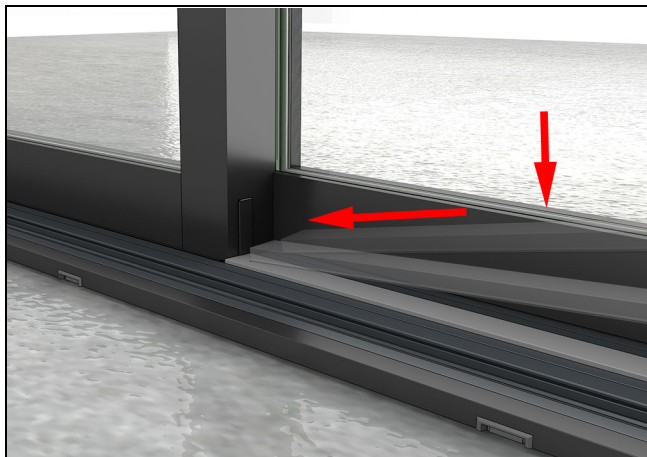
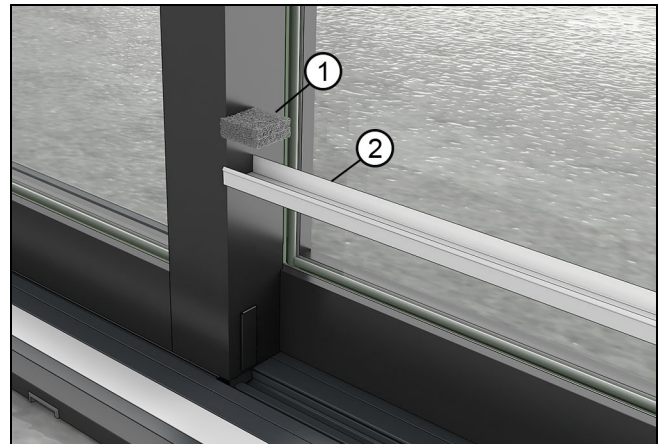
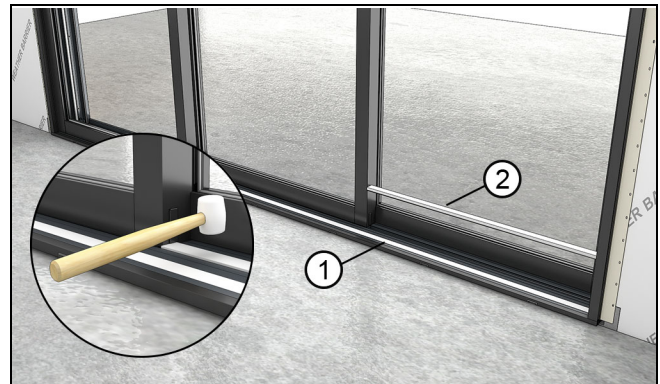

Figure 176
Figure 177
Figure 178
2. Start with the panels closed and locked. The sill covers fit between the stationary panel or secondary panels on the exterior and the jambs. Seat the cover with a rubber mallet. The cover will fit slightly under the stationary panel. See Figure 176, Figure 177 and Figure 178.